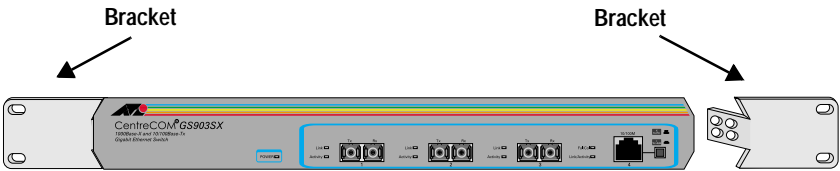

Figure 4 Attaching Rackmounting Brackets
2. Attach the rackmounting brackets to each side of the switch as shown in Figure 4, using the eight flathead screws that came in the switch package.